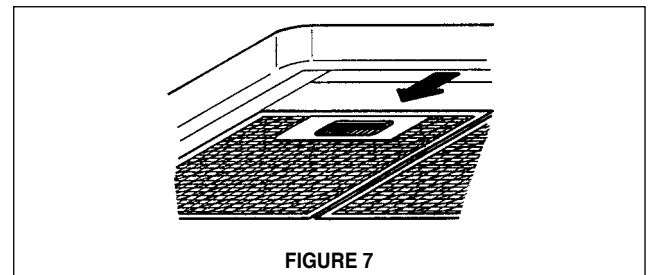

FIGURE 7
2. Remove the grease filters from the unit and set aside. The grease filters are removed by pressing the handle in front of the filter (FIGURE 7). When replacing, make sure that the filters are properly positioned with the handles in front and visible.